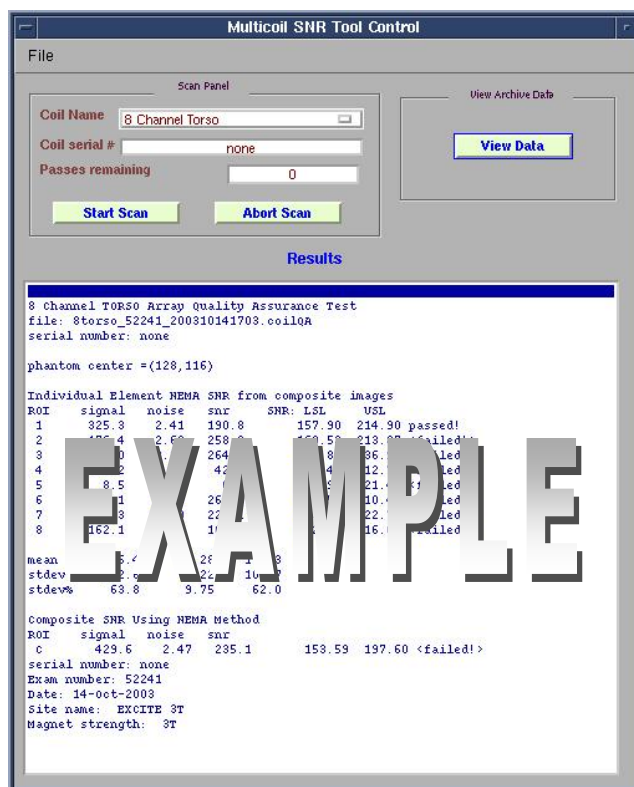
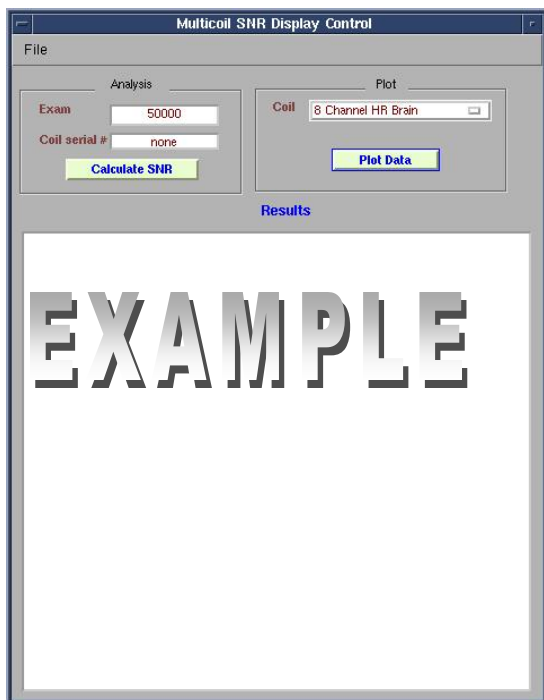

Figure 7: Results displayed in the Multicoil SNR Tool Control window.
Figure 10: Multicoil SNR Display Control window.
When the scan completes, the SNR data will be displayed in the Multicoil SNR Tool Control window (see *Figure 7*). The individual elements are assigned a pass/fail value. The results of section 3-2 are automatically recorded as files in /usr/g/service/data. Please refer to this directory for a history of functional tests performed on a specific system.
Step 1 – Click on the “**View Data**” button in the Multicoil SNR Tool Control window (see Figure 7). The Multicoil SNR Display Control window opens (see Figure 10).